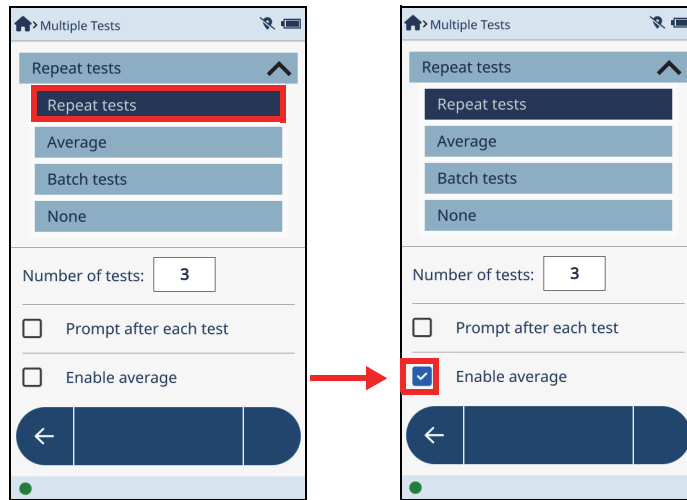

Figure 2-9 Enabling Averaging in Multiple Test screen
1. In the menu on the **Multiple Tests** screen, tap **Repeat Tests** (see Figure 2-9 on page 31).